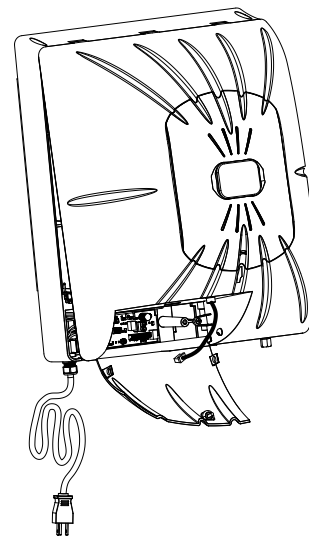

Figure 13
7. Lift the entire dome from the base of the unit by pulling the bottom of the dome away from the base and then lifting it off of the base. See Figure 13. If you disconnected the motor leads correctly, the motor dome should be free from the base and you can remove it completely. Do not hang the dome from the motor wires as damage can result.
9. Replace the motor cover by sliding it onto the dome until it bottoms out. Place the dome back on the base and secure it with the screw removed previously. Refer to Figure 13.